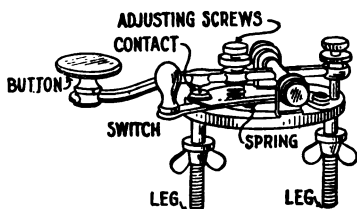

FIG. 130. — Telegraph key.
*The key.* The structure of the sender, or key, is shown in figure 130. This consists of a lever with a button at one end. On the under side is a point which makes contact with another